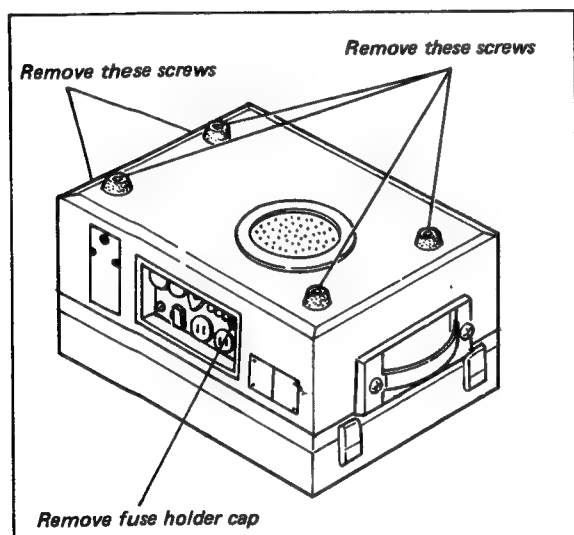

Fig. 3-1. Cabinet removal
1. Turn the VTR (with cabinet lid) upside down on a padded bench as shown in Fig. 3-1.
2. Remove the four Phillips-head screws from the bottom of the cabinet as shown in Fig. 3-1. Also, remove the two Phillips head screws on the side of the cabinet.